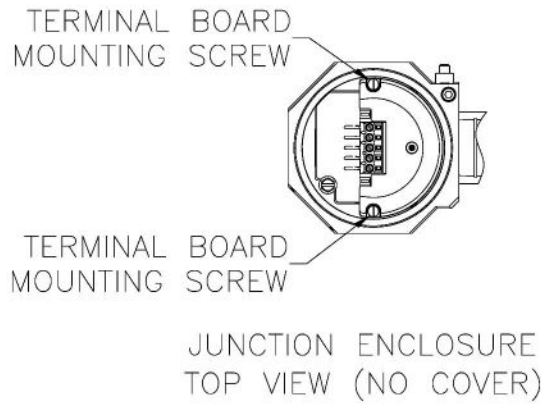
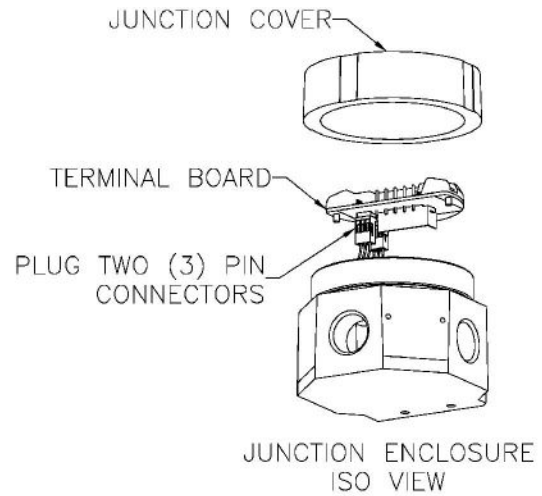

Figure 3-9
Figure 3-10
2. Locate terminal board mounting screws (See Figure 3-9), remove the two screws and lift up terminal board (See Figure 3-10).